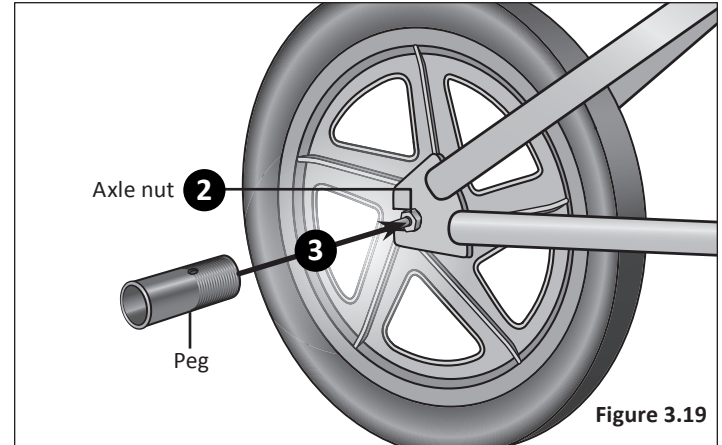

Figure 3.19
- 1 **Do not** loosen or remove axle nuts. **Figure 3.19**